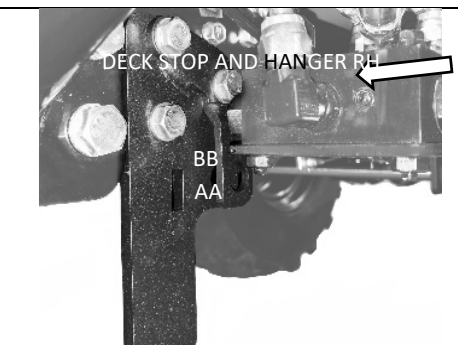

Figure 11A
9. Install the Tractor Deck Stop and Hanger RH (item 5) using the bolts BB and washers AA, figure 11A.